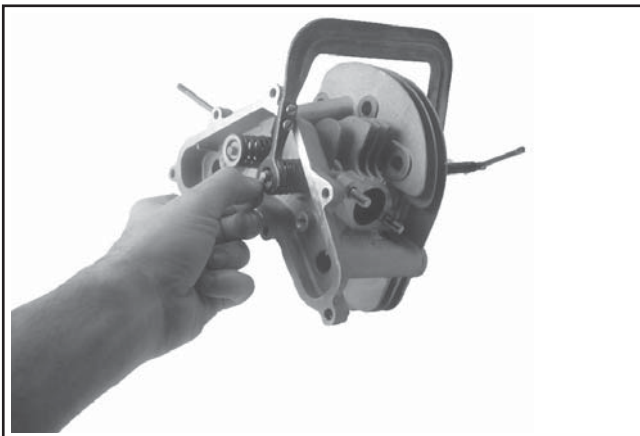
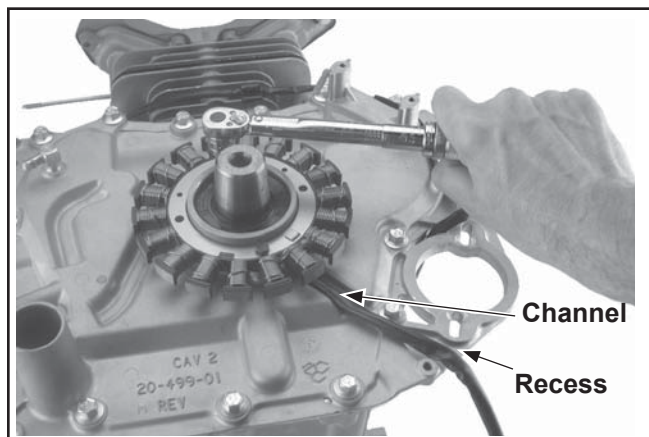

**Figure 10-36. Closure Plate Fastener Torque Sequence.**
Figure 10-47. Installing Stator.
4. Torque the closure plate fasteners to **24.5 N·m (216 in. lb.)** using the sequence shown in Figure 10-36.
1. Position the stator onto the mounting bosses so that the leads lay in the channel and recess of the closure plate. See Figure 10-47. They will become captured when the blower housing is installed. If a clamp was used to retain the leads, remove the screw in the No. 13, See Figure 10-36, location and install the clamp. Hold the clamp in position and torque the screw to **24.5 N·m (216 in. lb.)**